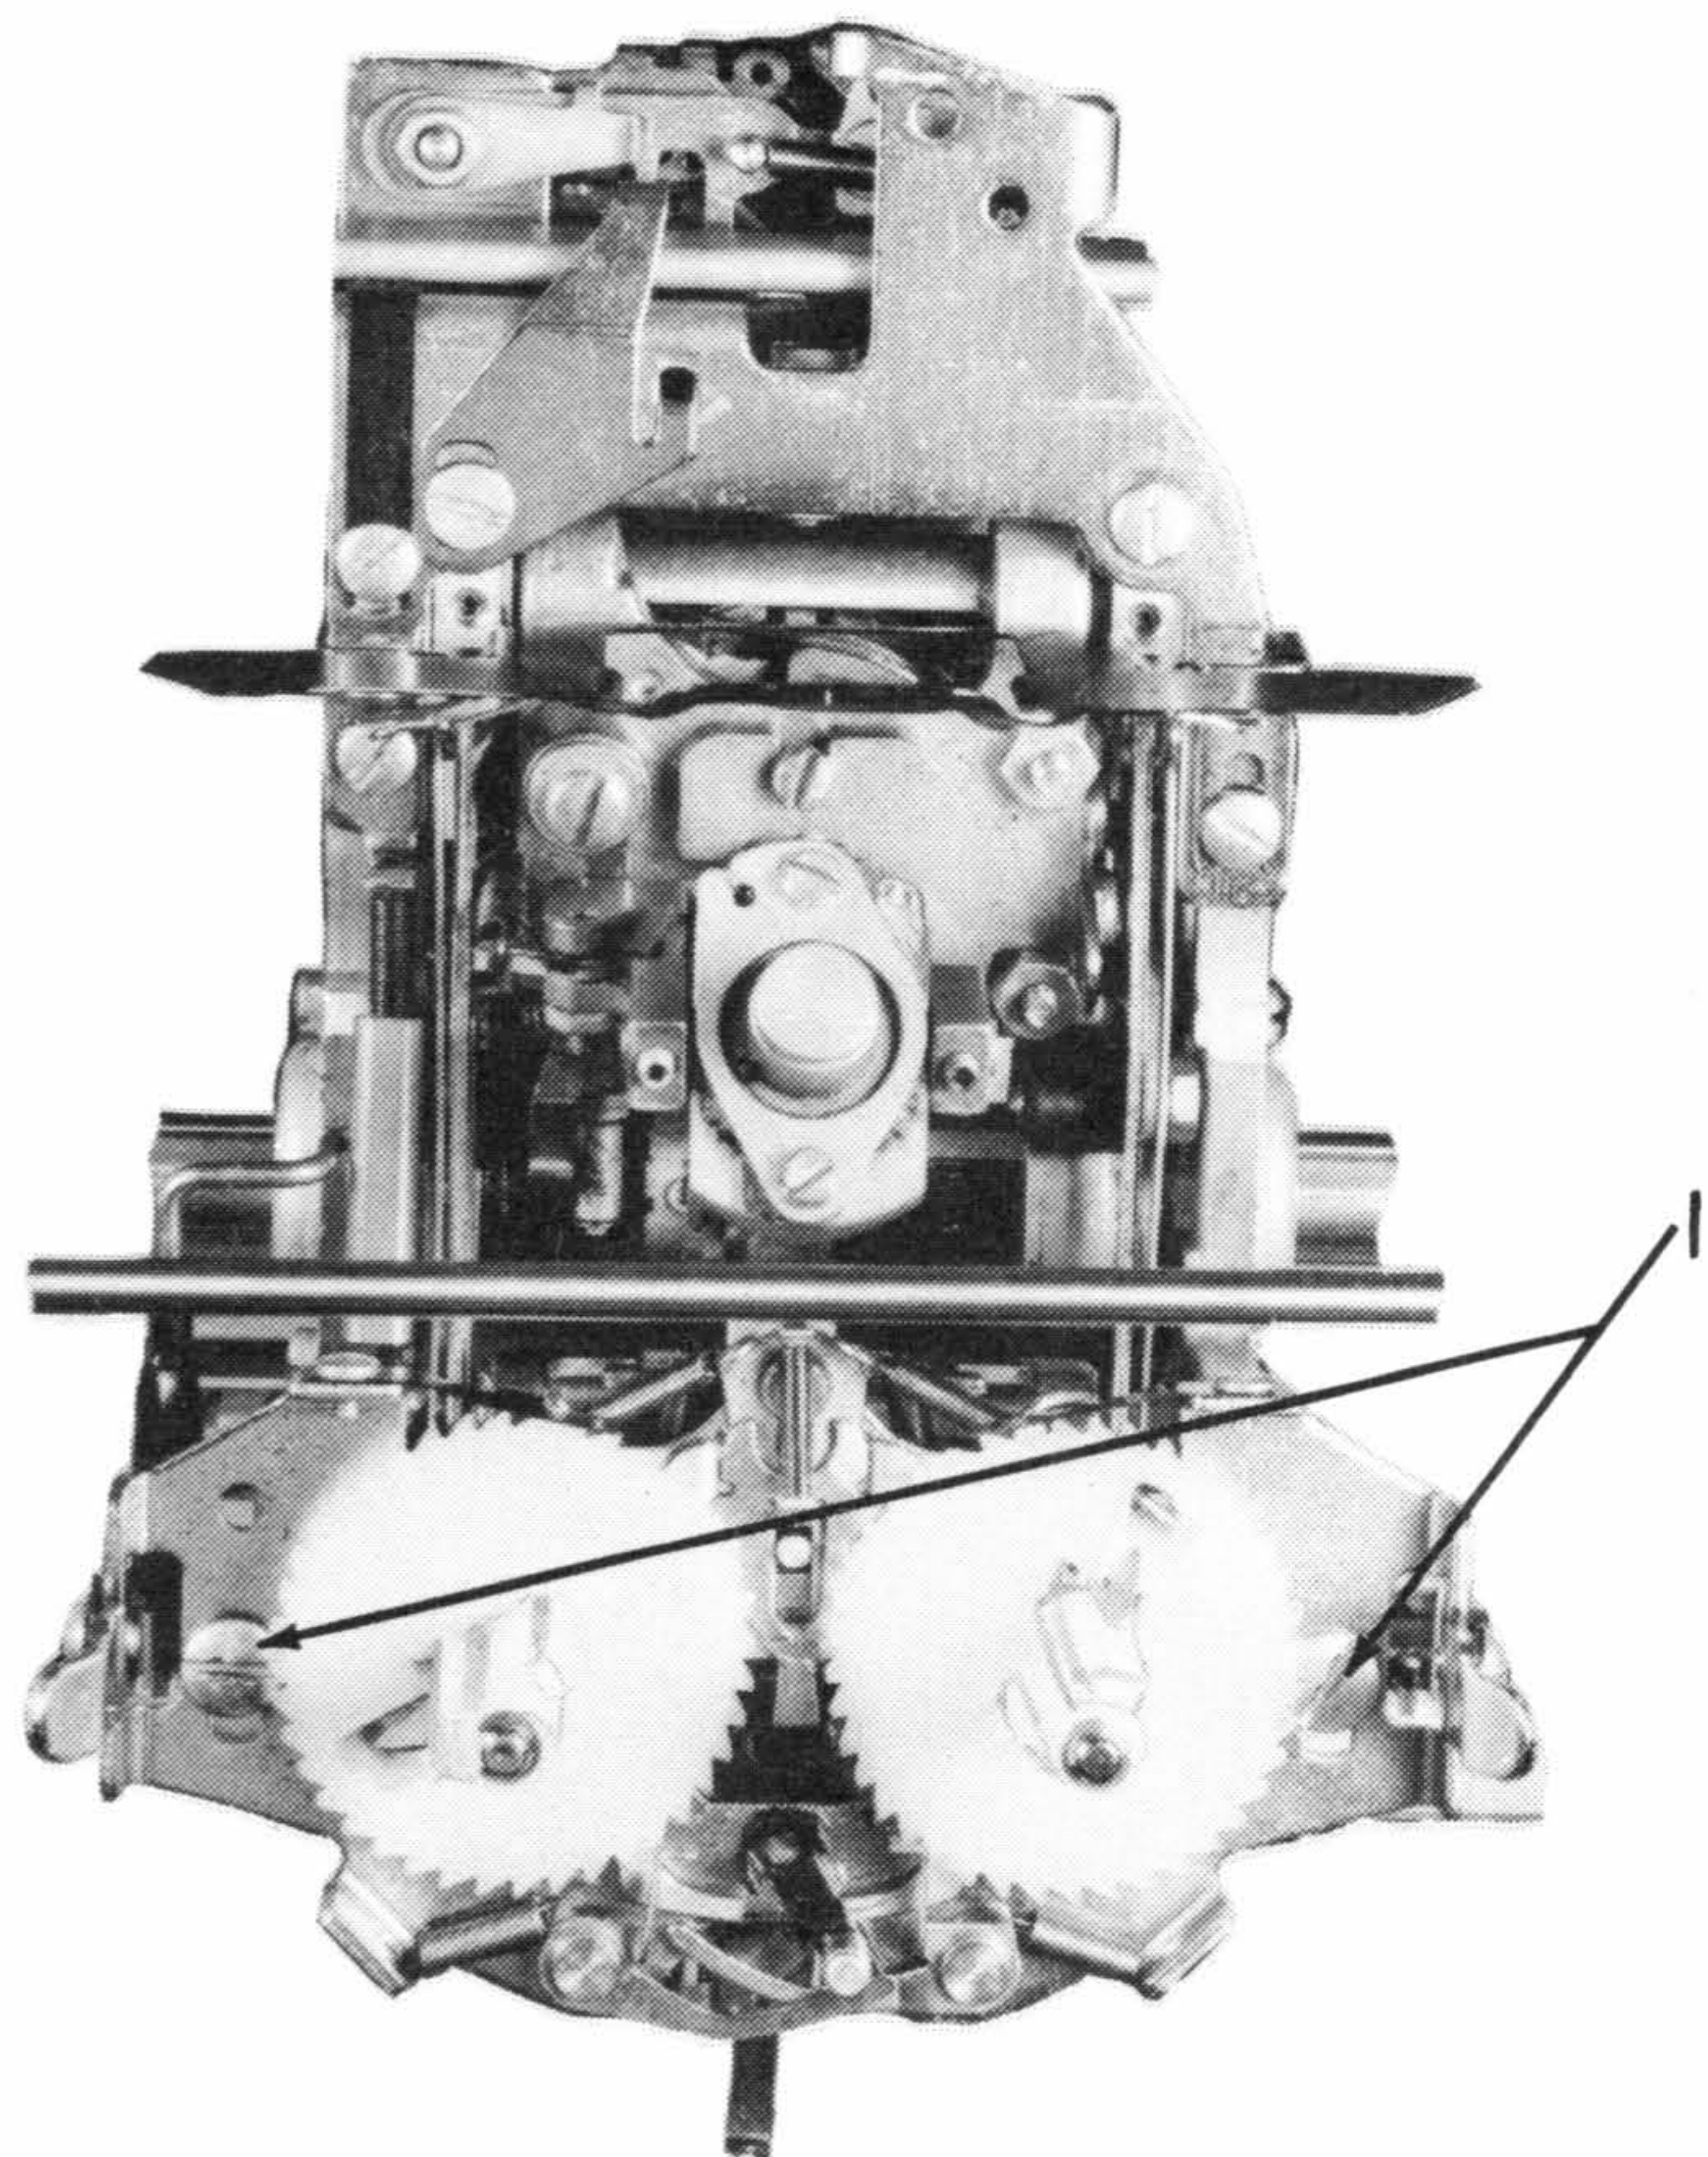

Figure 57. Carrier and Rocker Removal
1. Remove mounting screws (#1, Figure 57).